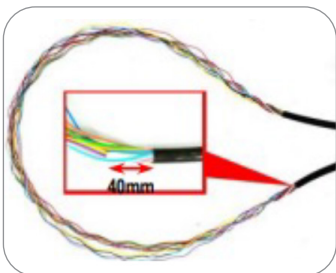

Figure 12
1. Strip the jacket of the feeder for about 4-6 ft (1200-1800 mm). Cut the central membrane leaving 1.5 in. (40 mm) from both ends of the jacket. (Figure 12)